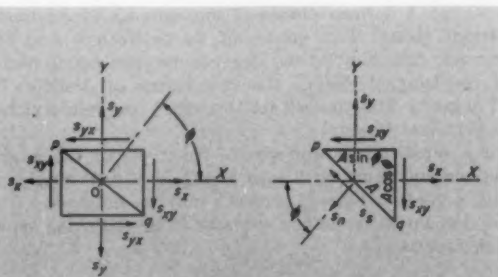
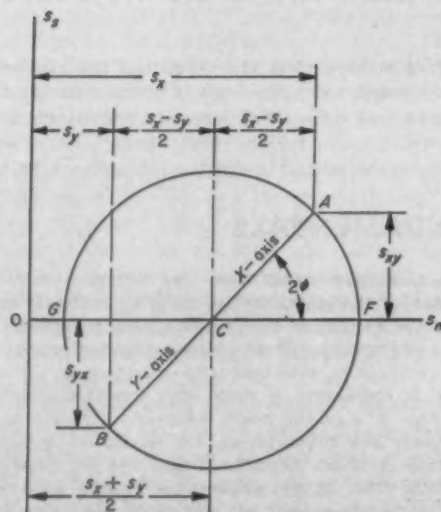

Fig. 5—Element subjected to normal and shear stresses
Fig. 6—Mohr's circle for graphically solving two-dimensional combined stress problems
Fig. 5 represents a view of a prismatic element cut from a stressed body, with the stresses acting as shown. For plane stress, the dimension in the Z-direction is of no importance and will be considered as unity. The figure would then appear as a rectangular parallelepiped of unit thickness with finite dimensions in the X and Y-directions and with stresses  $s_x$ ,  $s_y$ , and  $s_{xy}$  uniformly distributed over the faces. If the finite dimensions in the XY-plane were replaced with others of infinitesimal magnitudes  $dx$  and  $dy$ , the same method of analysis may be used for the case where the stresses are not uniformly distributed in the body. The sides of the element then become so small that  $s_x$ ,  $s_y$ , and  $s_{xy}$  are essentially constant over the lengths of the element. By this extension of principles the equations which will be cited may be utilized to analyze stress at a point.
**General Equations for Biaxial Stress:** In order to investigate the general case of the resultant, or combined stresses acting on any inclined plane, the equations of equilibrium are applied to an elementary prism removed from the part in question and treated as a free body. Let the element be subjected to normal and shear stresses acting in directions as shown in Fig. 5. The normal to a diagonal plane makes an angle of  $\phi$  with the X-axis. The resulting triangular prism may be treated as a free body in static equilibrium. Defining stress in terms of force per unit area, the total force on a face will be the product of its area and the stress acting. Area  $A$  of the inclined plane cancels out and the stress acting normal to the plane is
The stresses acting on the right-hand and left-hand edges of the element in Fig. 5 consist of a positive normal stress and a positive shear stress indicated by the clockwise direction of the shearing couple. They may be plotted as point A in Fig. 6. Plotting stresses  $s_y$  and  $s_{yx}$  applying to the upper and lower edges of the element locates point B. Here  $s_{yx}$  is negative since it produces a tendency for counterclockwise rotation. The Mohr's circle is drawn on diameter AB. For convenience, radii AC and BC are labeled X-axis and Y-axis, respectively.